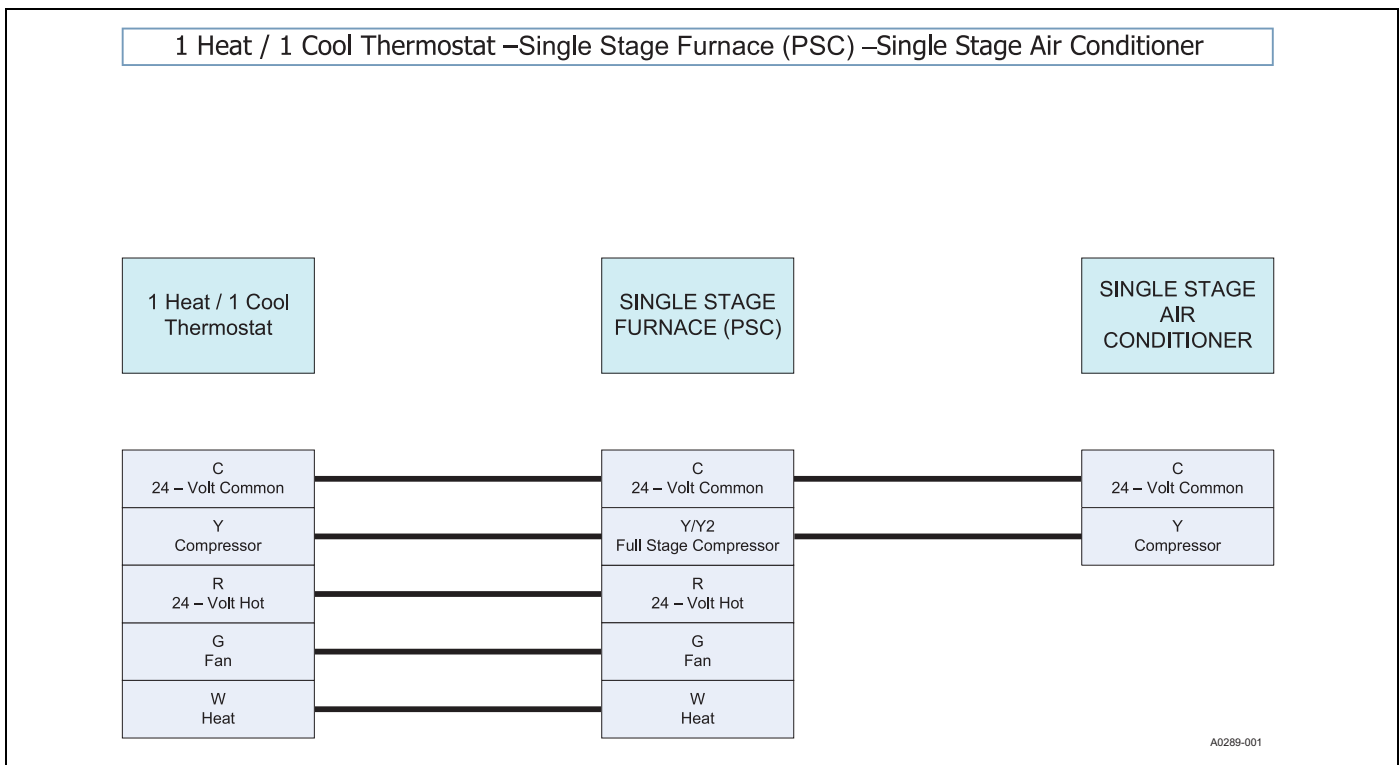

**FIGURE 12:** Typical Field Wiring (Air Handler / Electrical Heat) (Single-Phase)
1. Route low voltage wiring into bottom of control box as shown in Figure 10 or 11. Make low voltage wiring connections inside the low voltage box per Figures 12 - 14.